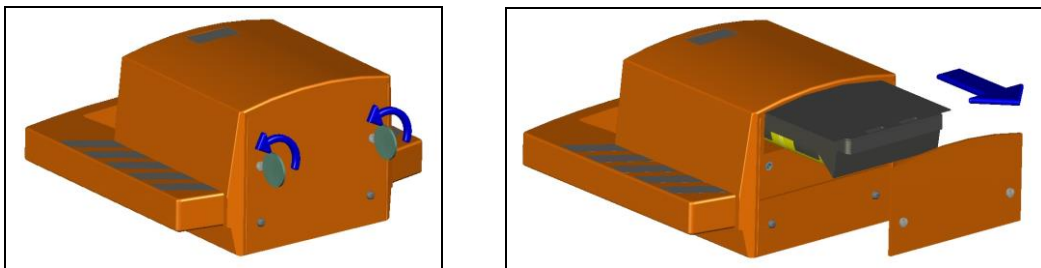

Fig. 16: Replacement batteries of TX5000
In order to change the 6x1.5 V batteries type LR20, both screws on the back of the transmitter must be (e.g. with the aid of a coin) turned through $\frac{1}{4}$ turn (1) and the battery tray must be pulled (2) (see Fig. 16). Please note that all the batteries are fitted in the same direction